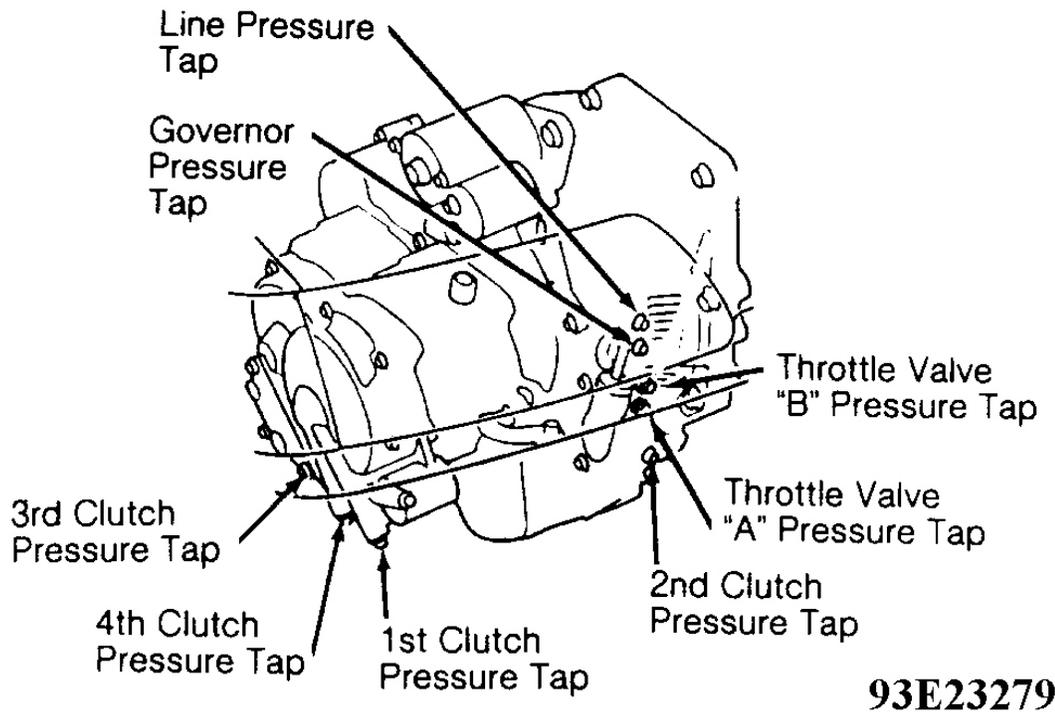

Fig. 4: Identifying Pressure Tap Locations
1. With engine off, remove plug from line pressure tap on transaxle. See **Fig. 4** . Attach Pressure Gauge Set (07406-0020003) to line pressure tap using NEW aluminum washer. Tighten hose fitting to 13 ft. lbs. (18 N.m).
NOTE: Clutch pressure should be checked at each clutch pressure tap on transaxle. See **Fig. 4** .
1. With engine off, remove plug from appropriate clutch pressure tap on transaxle. See **Fig. 4** . Attach Pressure Gauge Set (07406-0020003) to appropriate pressure tap using NEW aluminum washer. Tighten hose fitting to 13 ft. lbs. (18 N.m).
1. The low-high pressure is tested at 2nd, 3rd and 4th clutch pressure taps on transaxle. See Fig. 4 . Disconnect Throttle Valve (T.V.) cable from transaxle T.V. lever.
2. With engine off, remove plug from appropriate throttle valve pressure tap. See Fig. 4 . Attach Pressure Gauge Set (07406-0020003) to throttle valve pressure tap using NEW aluminum washer. Tighten hose fitting to 13 ft. lbs. (18 N.m).
1. With engine off, remove plug from governor pressure tap on transaxle. See **Fig. 4** . Attach Pressure Gauge Set (07406-0020003) to pressure tap using NEW aluminum washer. Tighten hose fitting to 13 ft. lbs. (18 N.m).